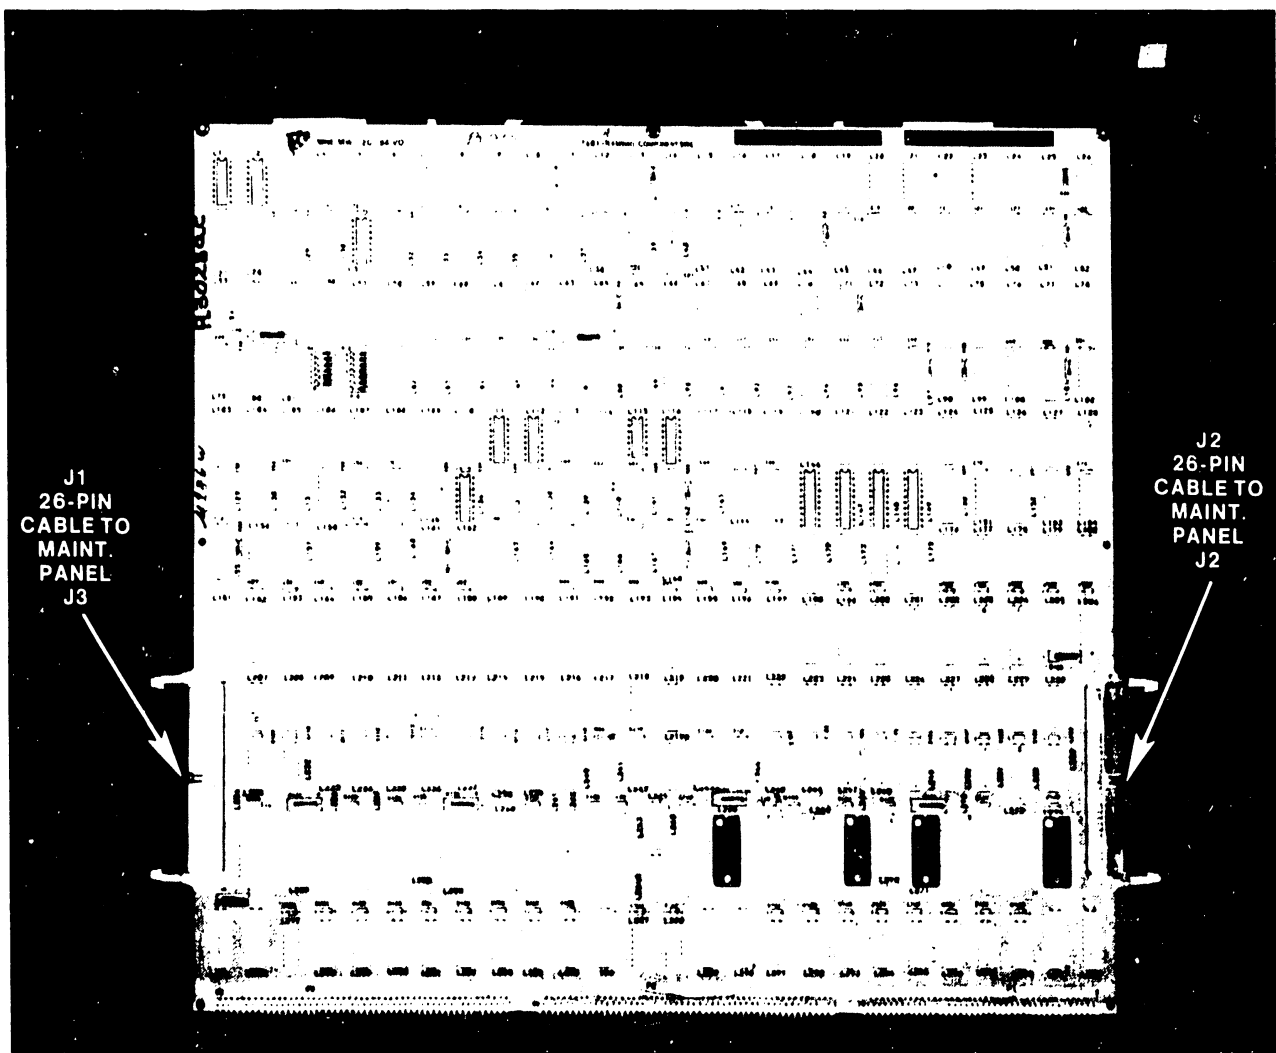

Figure 5-7A. 210-7601 VS-85 B Bus Board
1. Before removing the B Bus board (figures 5-7A and 5-7B) from Mother-board slot #3, lower the fan assembly as described in paragraph 5.3.6.30. Remove the two Phillips screws securing the hinged cover over the fan safety screen inside the cabinet. Raise the cover, remove the screen, and turn the vertically mounted air flow baffle to the right. This allows access to the connectors on the rear of the circuit boards.